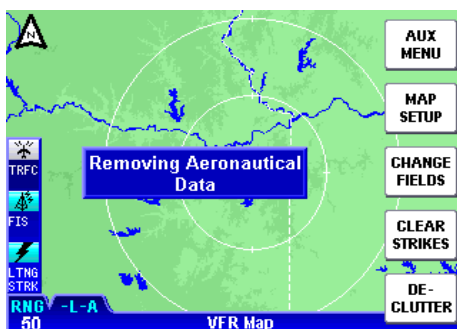

Figure 1-53
3. Press the **DECLUTTER** Softkey again. On the second press the aeronautical data will be removed from the display as seen in Figure 1-53. Notice airports, airspace boundaries, etc. are no longer displayed. Note also that a **-A** is now added in the bottom left of the screen indicating the display is also minus aeronautical data in addition to land data.